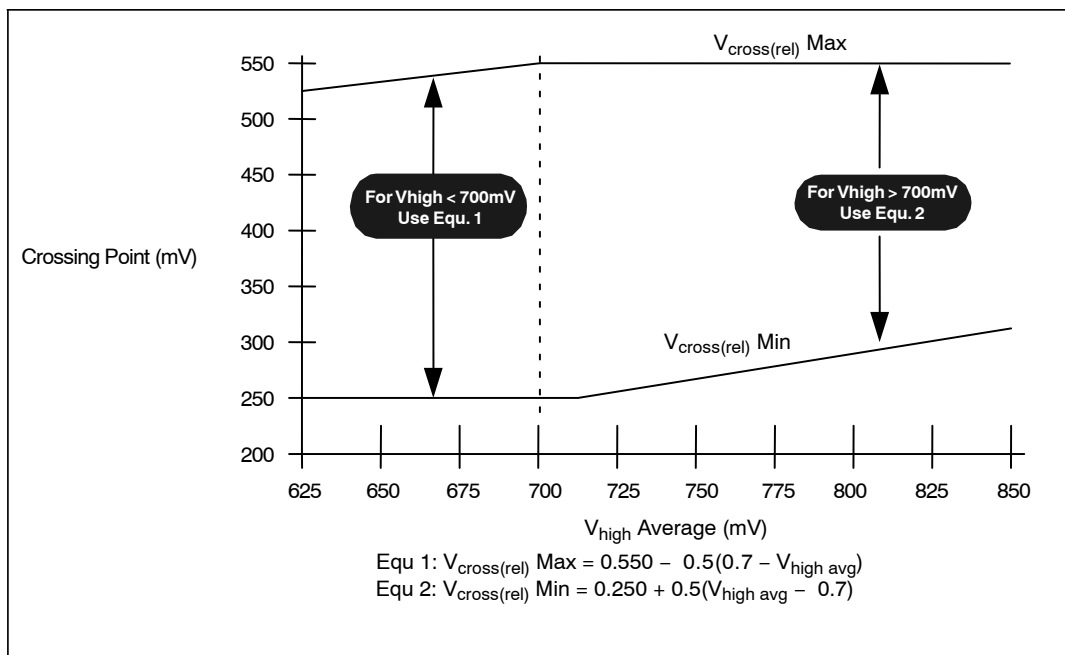

Figure 16. V_{cross} Range Clarification (Note 36)
16. Vcross(rel) Min and Max are derived using the following, Vcross(rel) Min = $0.250 + 0.5 (V_{high\ avg} - 0.700)$. Vcross(rel) Max = $0.550 - 0.5 (0.700 - V_{high\ avg})$. (see Figure 16 for further clarification).